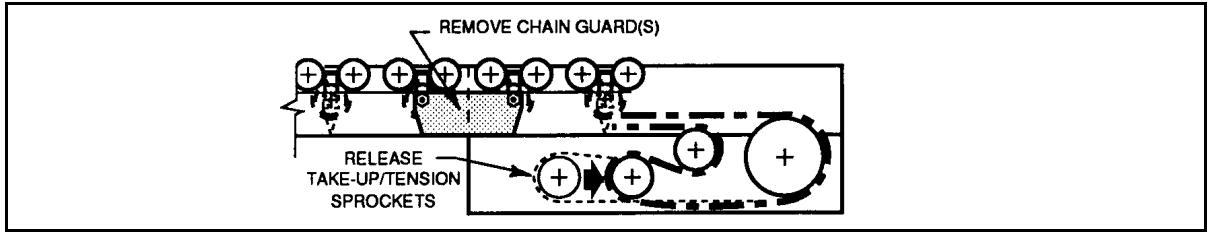

Figure G.46
- Step 1. Assemble the drive/curve section to the take-up/curve section, see Figure G.4, and make the chain connections, Figure G.43, Figure G.44, and Figure G.46.
Before proceeding, adjust the conveyor's take-up and tensioner sprockets to release the chain tension, and remove the internal chain guard(s) as required (see Figure G.46).